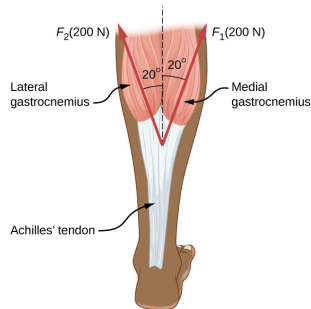

FIGURE 9.35 The Achilles tendon of the posterior leg serves to attach plantaris, gastrocnemius, and soleus muscles to calcaneus bone.
27. Two muscles in the back of the leg pull on the Achilles tendon as shown in Figure 9.35. What total force do they exert?